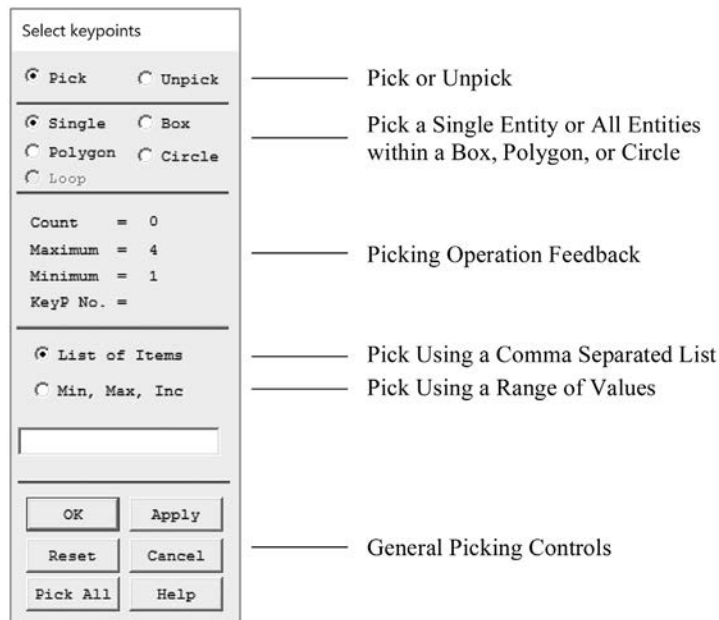

Figure 7.3 The Picker.
The Picker is composed of 5 sections (Figure 7.3). The top section allows you to specify whether to pick (select) entities to add to the new set or to unpick (unselect) entities from the current set. The second section allows you to specify how to pick (select) the entities.
- The “[Entity] No.” field tells you the number of the entity that has been picked most recently. In Figure 7.3, the entity number shown is the keypoint number (KeyP No.).